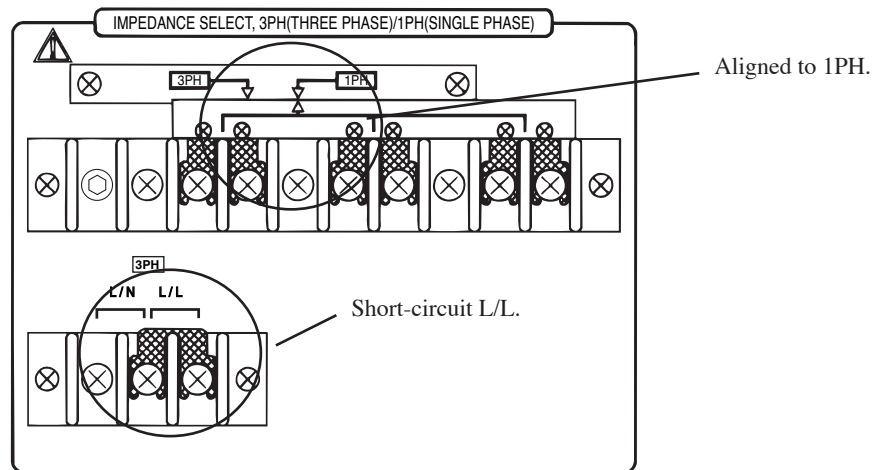

Fig. 2-4 Single-Phase Circuit Settings
2. Make sure that terminal board connection is made as shown in Fig. 2-4. If it is not made as shown, make connection again. The short bar can be removed upward by releasing the screw of the terminal board. Move it to the specified position and then fasten the screw securely.